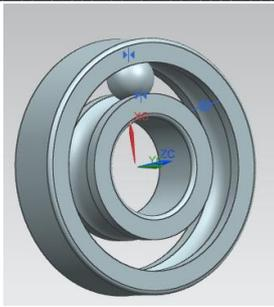
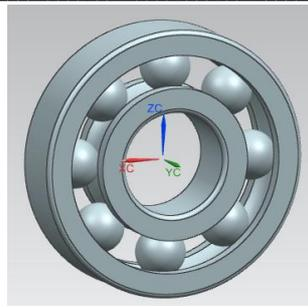

Figure 6.1
Figure 6.2
c) Go to the **Add** section again. In the resulting **Add Component window**, go to **Open**. From there, select the ball and click **Ok** and click **Ok** again. Make the necessary settings using the **Move Component** command. We enter the **Assembly Constrains** command. **Select Touch Align** in the **Type** section of the resulting window, **Align to Orientation** in **Geometry to Constrain**, and select **Two Objects** to select the corresponding surface of the coordinate system in the sphere with the surface of the coordinate system parallel to the wallpaper. Click **Apply**. Then select **Touch** in **Orientation** and select **Two Objects** with the ball surface and the moving surface of the ball in the wallpaper. As a result, the sphere is placed in its range of moving wallpaper (inner and outer wallpaper) (Figure 6.1). We enter the **Pattern Component**. Select the ball to **Select Component**, the vector perpendicular to the wallpaper to **Specify Vector** and the circle to the wallpaper to **Specify Point**, type **Count** to 8, type **360/8** to **Pitch Angle** and click **Ok**. As a result, the bearing is formed of 8 balls (Figure 6.2).